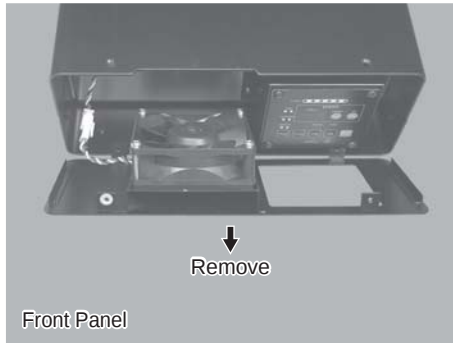

Fig. 39
- (4) Remove the Case (Front Panel) from the CONTROLLER (Fig. 39).